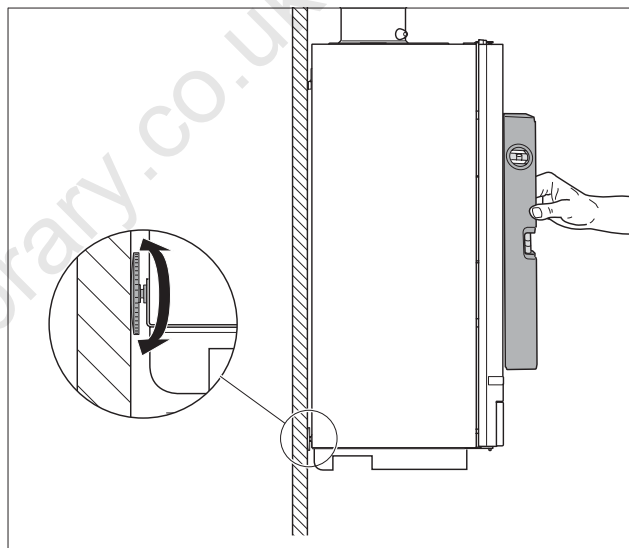

fig. 9 Aligning the boiler with the set screw
- Level the boiler using the set screw and a spirit level (fig. 9).